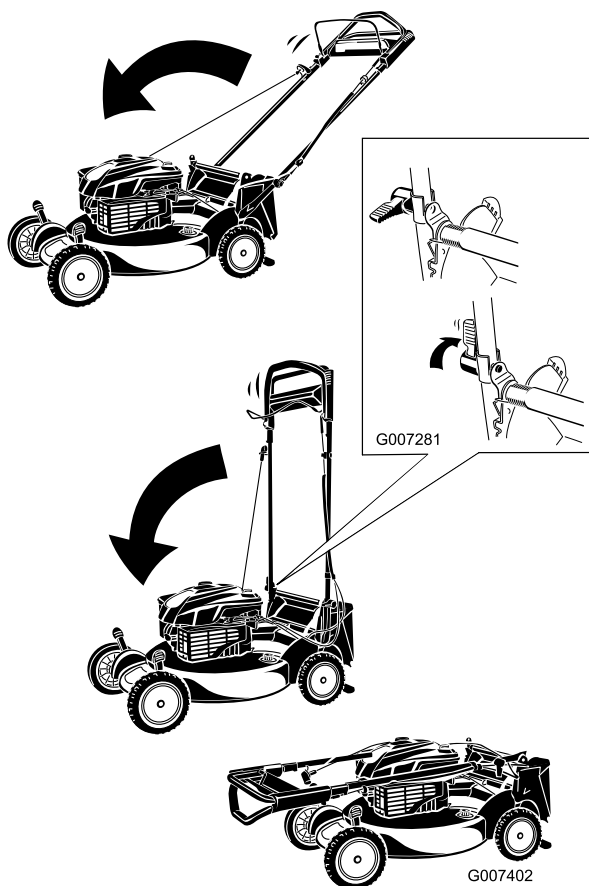

Figure 52
1. Rotate the handle forward (Figure 52).